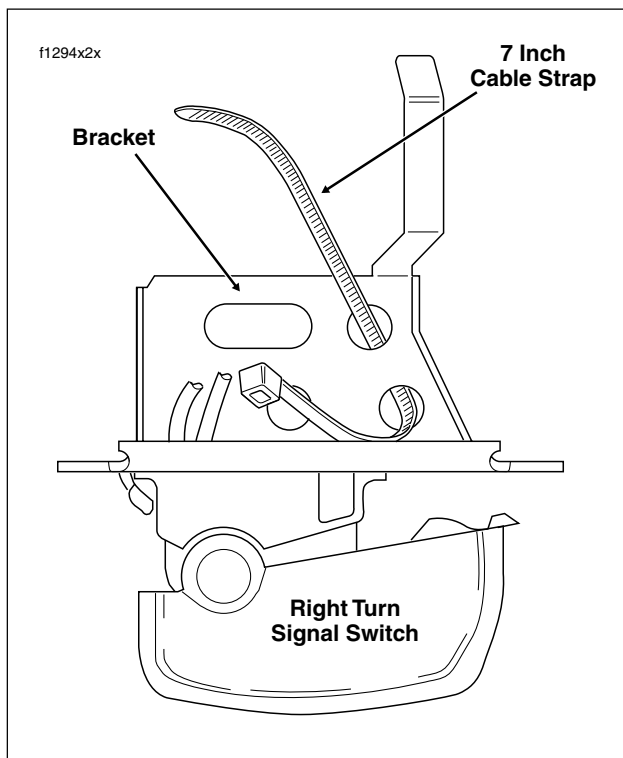

Figure 8-101. Insert Cable Strap in Switch Bracket
1. Insert tapered end of **new** 7 inch cable strap into round hole in turn signal switch bracket and then feed back through using the adjacent hole. Reserve the oblong hole for the bracket screw. See Figure 8-101.